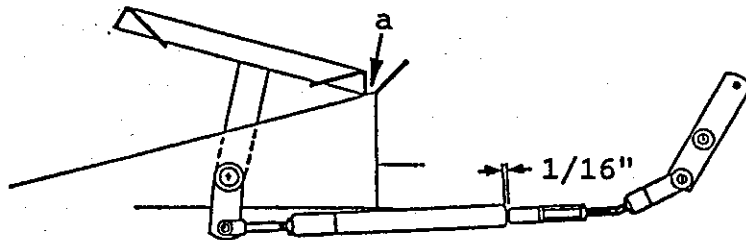

Fig. 9 Motion Control Linkage Adjustment
- b. Check the gap between the motion override tube and the spacer. This gap should measure  $1/16$  in. as shown in Fig. 9.